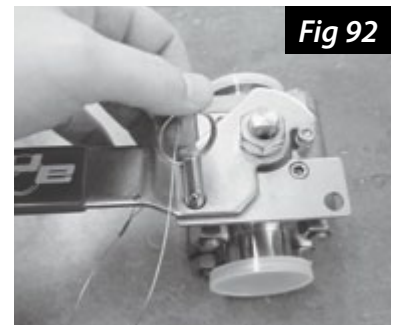

Fig 92
20. Insert pin (or a padlock of your choice) through the valve handle and lock plate (Fig 92).